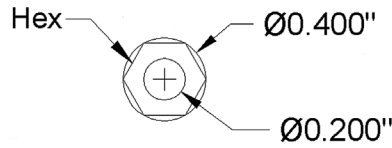

FIGURE 8.24 Bolt layout.
Step 3. To begin the drawing itself, we need to start with the hex bolts. Go ahead and draw one of them according to the information in Fig. 8.24. Be very careful, all sizes are diameters not radiuses; you must tell AutoCAD this by pressing **d** for **Diameter** while making a circle. This has tripped up many students in the past. Also do not forget to make layer M-Part current. If the bolt is anything but green in color, you missed this step. The dimensions are only for your reference for now; there is no need to draw them.